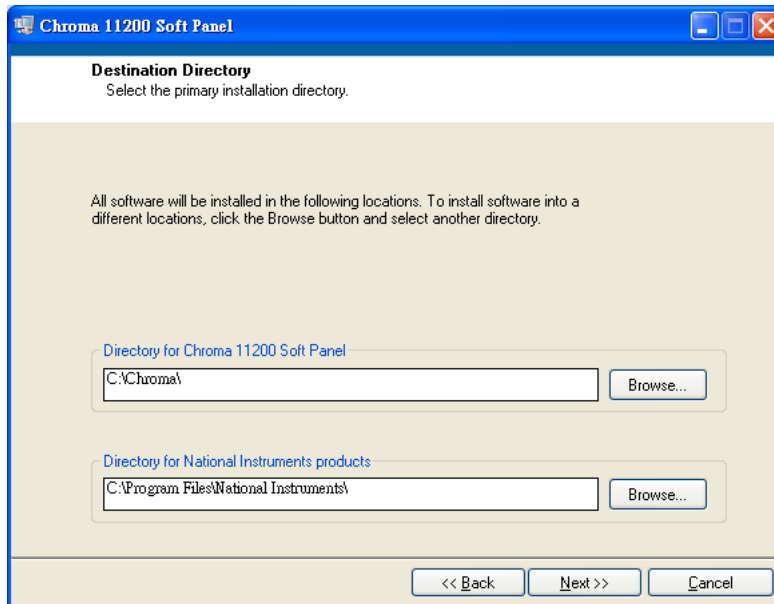

Figure 2-3 Installation Path
3. The program is predefined to install in C:\Chroma\Chroma 11200 Soft Panel\ directory. If it is necessary to install it to another directory, click **Browse** to specify the path for installation as Figure 2-3 shows.